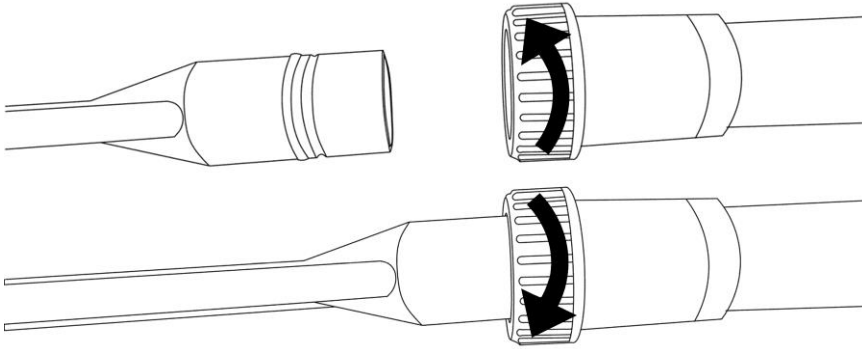

Fig.10
- Secure the utensil to the end of wand. Align the brass ring with the groove on the floor tool to ensure a secure fit (Fig. 10)